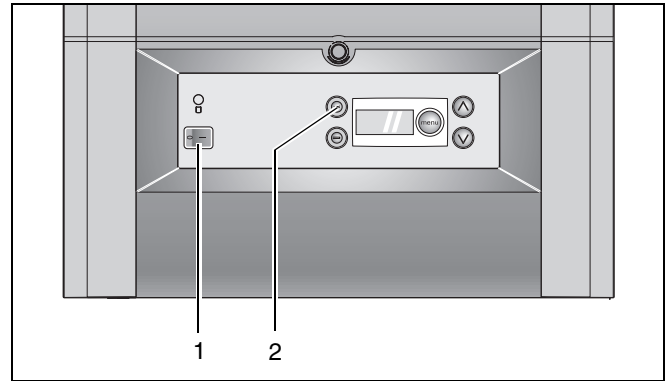

fig. 50 DBA front
- Take the boiler out of service by pressing the mains switch (fig. 50, item 1) to "0".
- Set the mains switch (fig. 50, item 1) to "1".
- Create a heat demand by pressing the service button "⊖" (fig. 50, item 2), until an open-end spanner "🔧" appears in the top left hand corner of the display.
- Turn mains power switch to "0" (fig. 50, item 1).
- Set the mains switch to "1" (fig. 50, item 1).
- Set mains power switch to "0" (see fig. 50, item 1).
- Turn the mains power switch to "1" (see fig. 50, item 1).
- Turn the mains power switch to "0" (see fig. 50, item 1).
- Set mains power switch to "1" (see fig. 50, item 1).
- Set the mains power switch to "0" (see fig. 50, item 1).
- Set the mains power switch to "1" (see fig. 50, item 1).